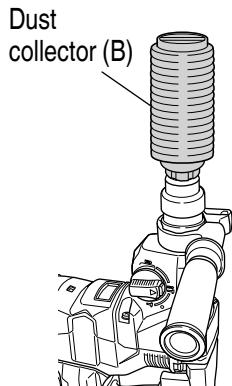

Fig. 14
(Optional accessories) (Fig. 13, Fig. 14 on page 52)
- Installing dust collector (B)
When using dust collector (B), insert dust collector (B) from the tip of the bit by aligning it to the groove on the grip. (Fig. 14 on page 52).